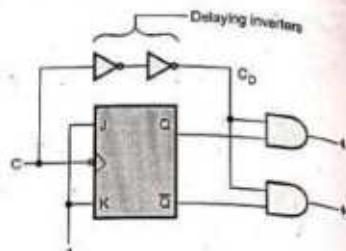

Fig. 5.7.9 Two phase clock circuit
- Fig. 5.7.9 shows the two phase clock circuit that consists of two separate signals and each of them go high for a portion of the clock cycle but not simultaneously.